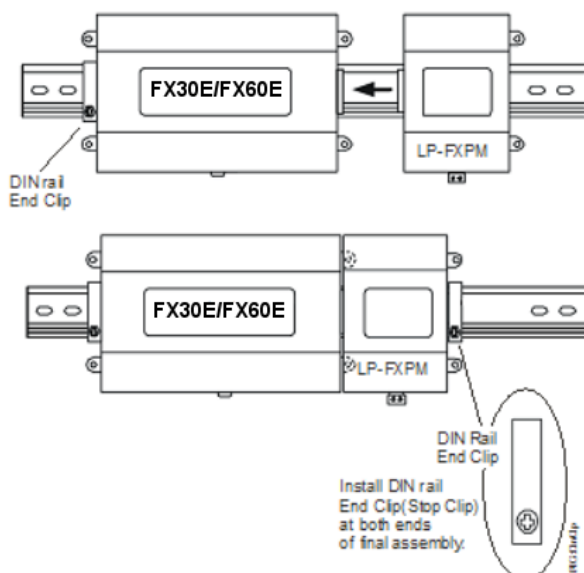

Figure 4: Using End Clips to Secure Modules
6. Repeat these instructions for all accessories, until all are mounted on the DIN rail and firmly connected to each other. For an example, see Figure 4.
To keep the final assembly together, secure the assembly at both ends with DIN rail end-clips. This action also prevents the assembly from sliding on the DIN rail. See Figure 4.